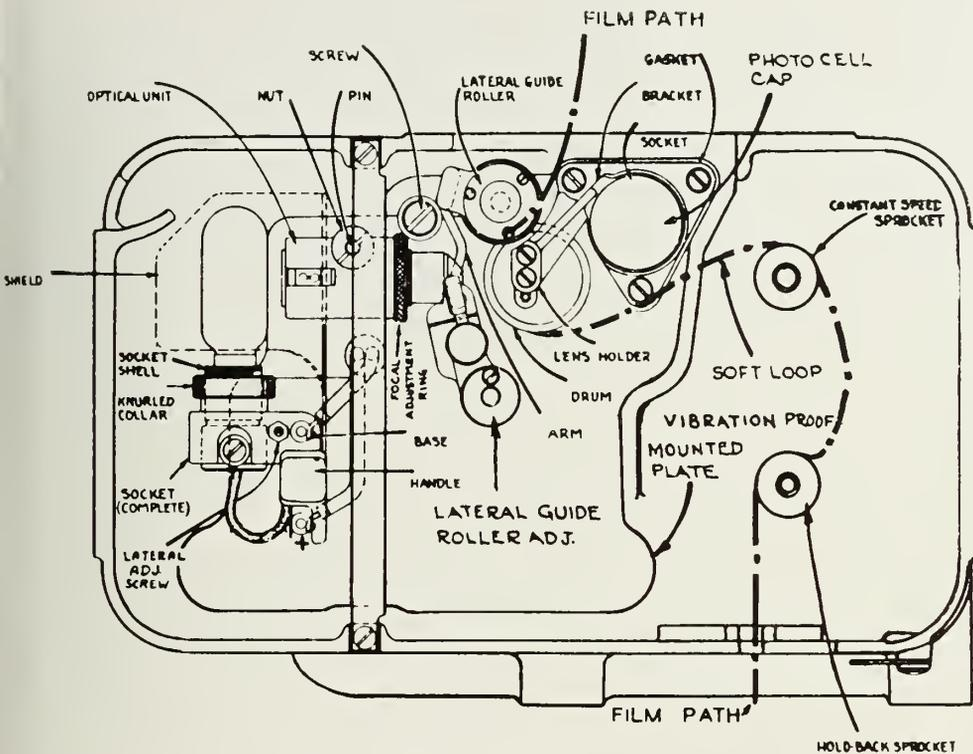

FIG. 5
**FLUTTER.** The rotating gate and rotary stabilizer combination, film path, and optical system employed in these soundheads are shown in their relative positions in Fig. 5. The principle upon which the mechanism operates to insure constant speed is the drum, which is mounted on the shaft whose other end carries the rotating stabilizer and is turned by the film as it is pulled forward by the pulling sprocket. This shaft is mounted in selected ball bearings and turns so lightly that only approximately two ounce inches of torque is required to drive it at full speed. This light driving torque together with the soft loop of film formed by the film between the drum and the pulling sprocket prevents all ripple from the sprocket teeth getting back to the sound take off point. The rotating stabilizer is shown in Fig. 6 and consists of a magnesium, oil tight, hollow shell which is mounted exactly like a flywheel and fastened to the shaft. Being light in weight, this shell is easy to start from standstill and does not impose a hard pull on the film that so often damages sprocket holes when